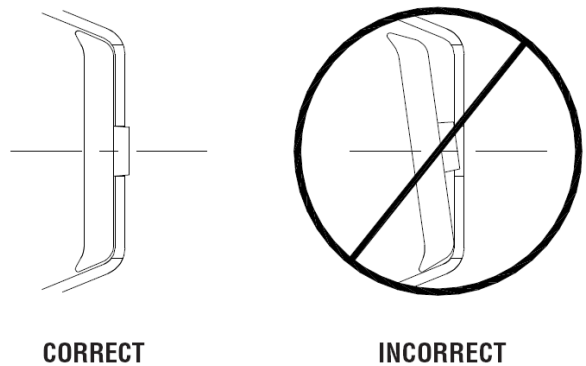

Figure 71
- 5) Mushroom Washer Assemblies are properly aligned and positioned (Figure 71).